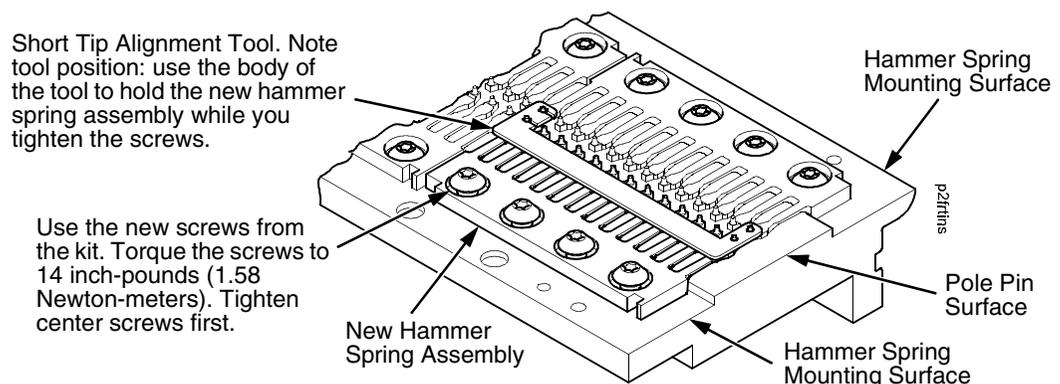

Figure 28. Hammer Spring Installation using Short Tip Alignment Tool
- Handling the hammer spring assembly by the mounting base only, position the new assembly on the hammer bank and install the mounting screws from the replacement kit finger tight. (See Figure 28.)
- Gently position the short Tip Alignment Tool so that hammer tips from the new spring assembly and tips from the spring assembly “above” it are in the holes, as shown in Figure 28. Hold the new hammer spring in this position with the tool and use a Torx T-10 bit adapter to torque each screw to 14 in-lbs (1.58 N•m). Tighten the center screw(s) first. (See Figure 28.)